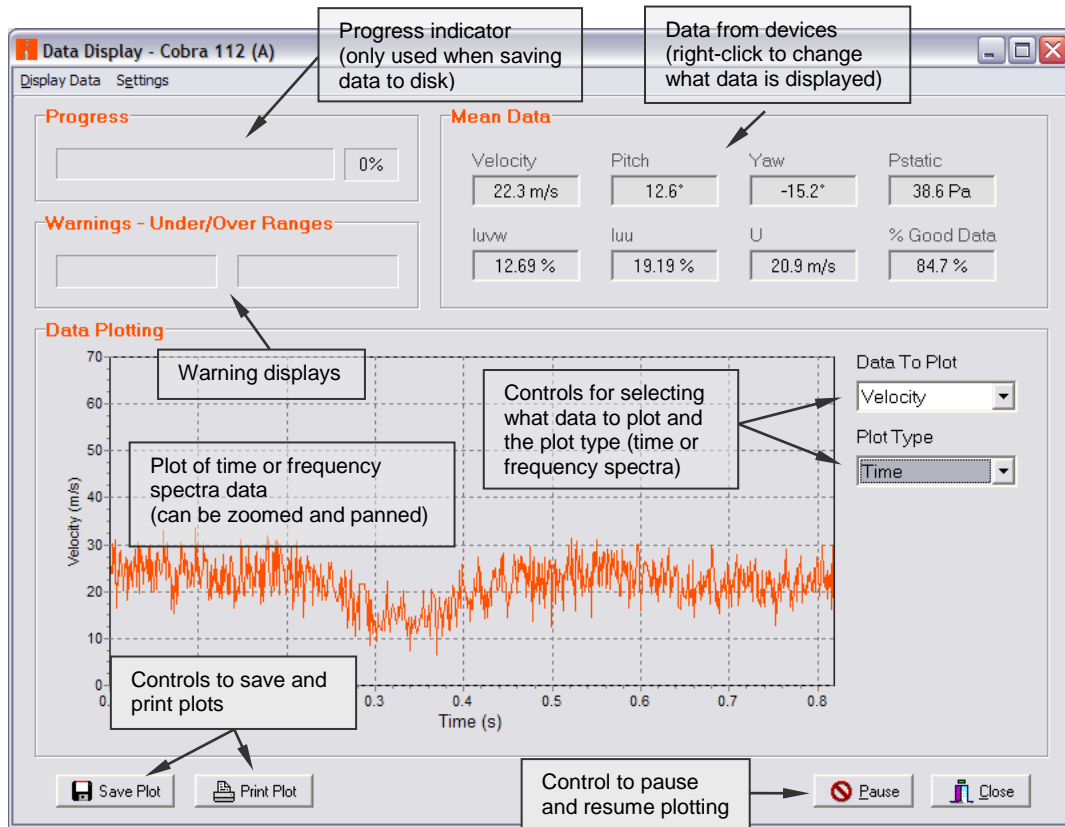

Figure 9: The Data Display screen of the TFI Device Control software
- i** Go to the **Data Display** form by clicking on **Real-Time Monitor** in order to see the temperature & pressure data (see Figure 9 below)
While obtaining data from a device, the **Data Display** form will be shown. A sample screenshot is given in Figure 9. When the RSM is selected from the **Display Data** menu, temperature and pressure data can be selected in the box on the lower right for plotting.